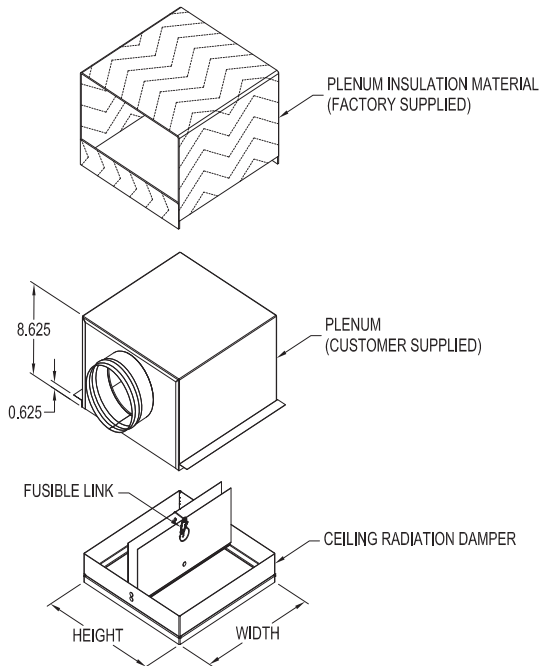

Figure 6: Exploded view
- 4) The steel plenum box is to be attached to the damper using #8 screws, $\frac{1}{8}$ in. (3 mm) rivets, spot welds, or tack welds. Minimum of two per side (**Figure 6 and 7**).